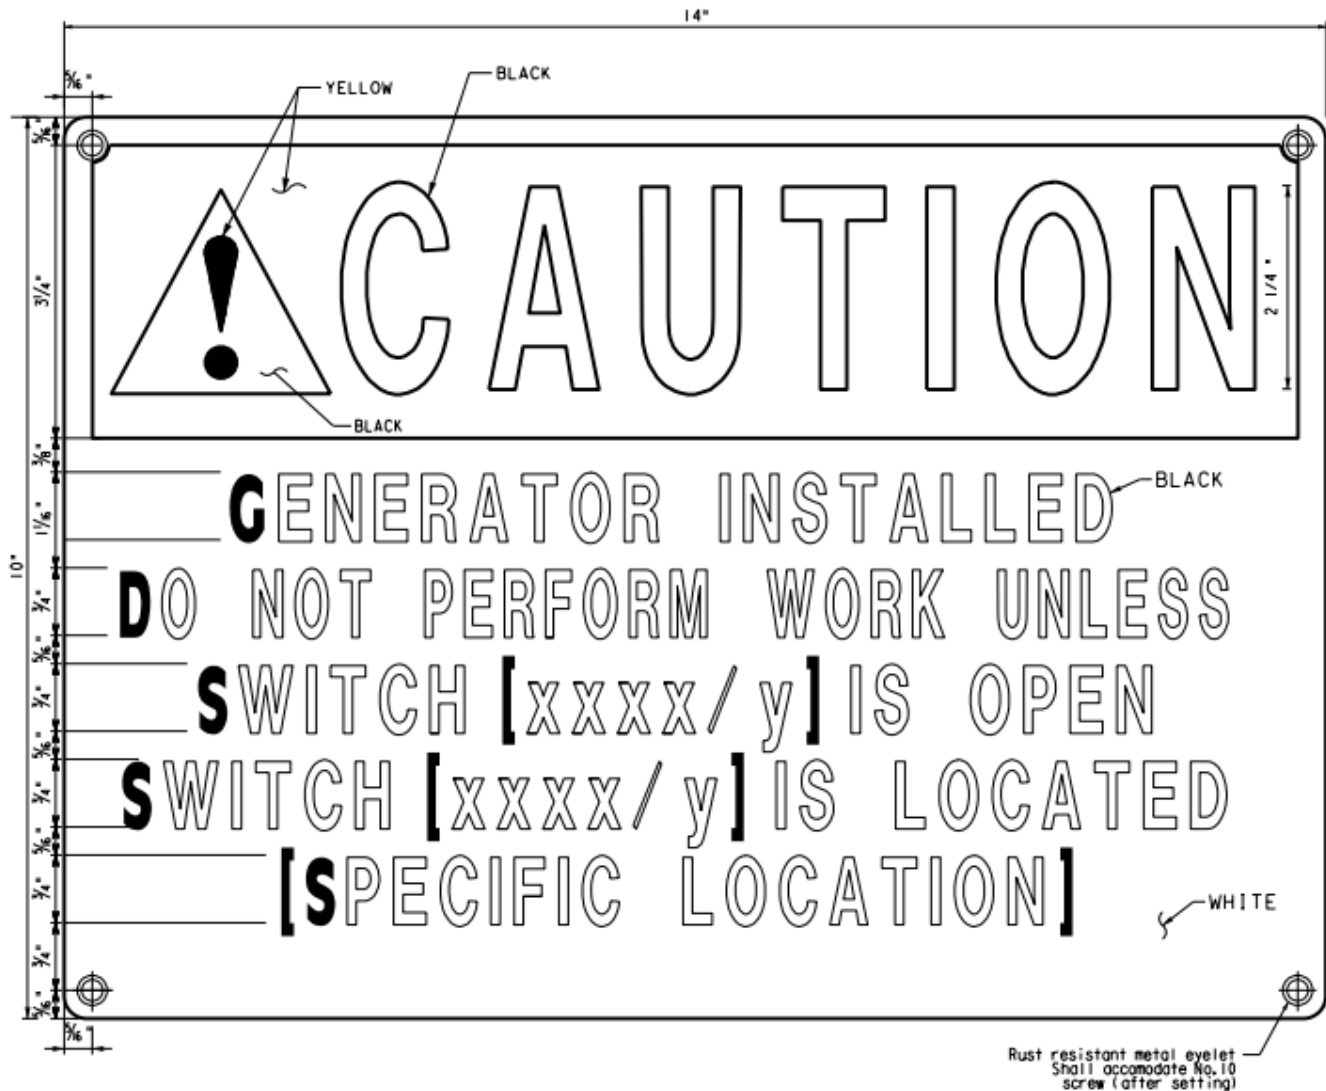

Figure 8. Generator Onsite Caution Sign
6.2 USE the wording shown in Figure 8 below for interconnections with single generator disconnects. Also, FOLLOW the guidelines for required colors:
- 6.3 For interconnections using multiple generator disconnects, INCLUDE the following text in the sign shown in Figure 8, "Generator Onsite Caution Sign," on Page 10: